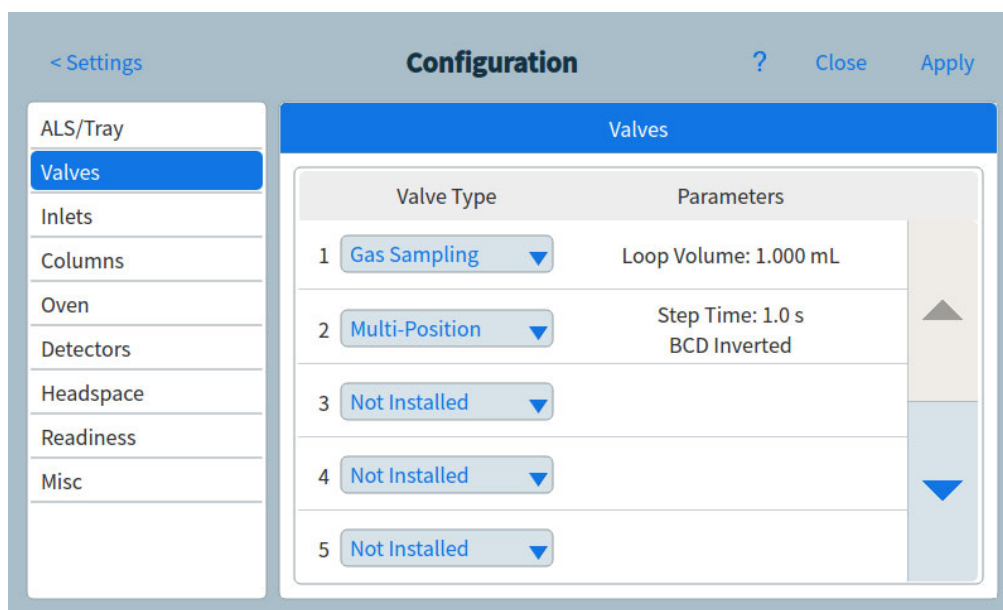

Figure 57. Valves page
- 1 Select **Settings > Configuration > Valves**. See Figure 57.